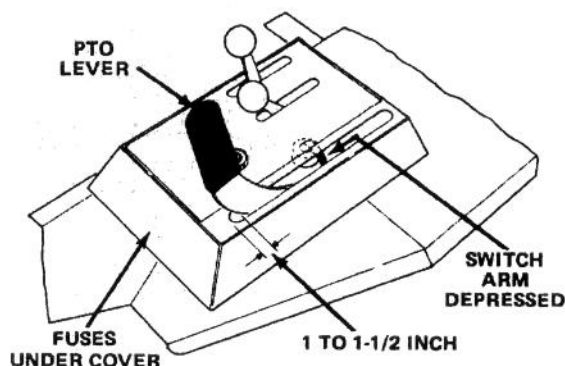

Figure 67
All fuses are accessible under the control console cover (Fig. 67).
1. Visually check PTO lever to be sure it deflects switch arm when lever is in the disengaged position (Fig. 67). Back surface of PTO lever must be within 1/2 to 1-1/2 in. from end of the slot (Fig. 67). If PTO lever does not deflect switch arm, proceed to step 2.
Loosen adjusting screw until PTO lever is within 1/2 to 1-1/2 in. from end of the slot, when lever is in the disengage position (Fig. 67). This will deflect the switch arm. Tighten jam nut against yoke to lock the adjustment in place (Fig. 68). Move PTO lever to engage position and rotate locknut at top of spring until the dimension of spring, between the top and bottom flatwasher, is 3-1/4 in. (8.3 cm) (Fig. 68). Repeat step 1.